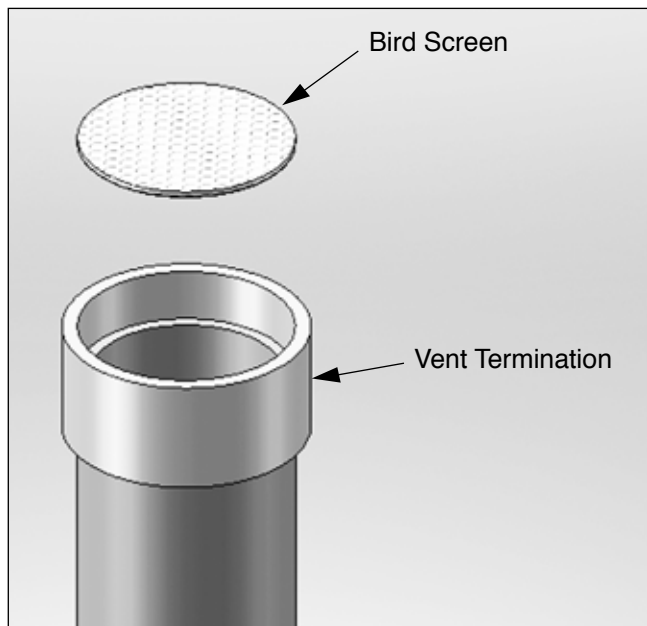
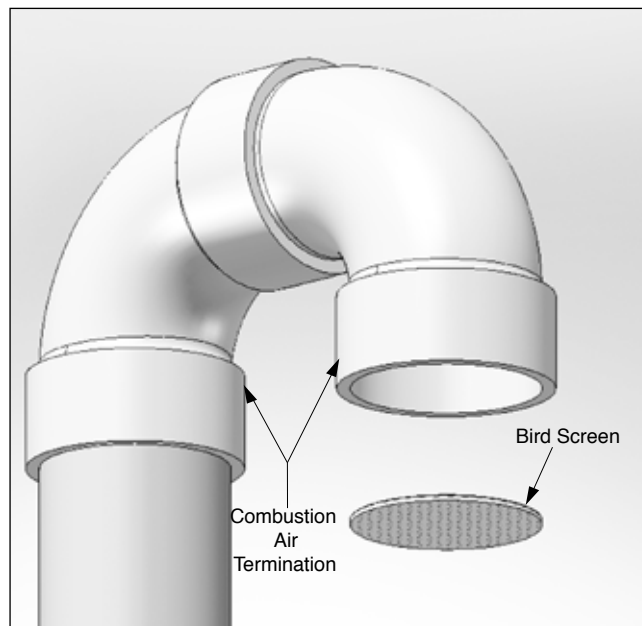

Fig. 3 - Vertical Vent Bird Screen Installation
Fig. 4 - Vertical Combustion Air Bird Screen Installation
1. The vent and combustion air terminations must include a factory supplied "bird screen" installed as shown in *Fig. 3* and *Fig. 4* on page 14